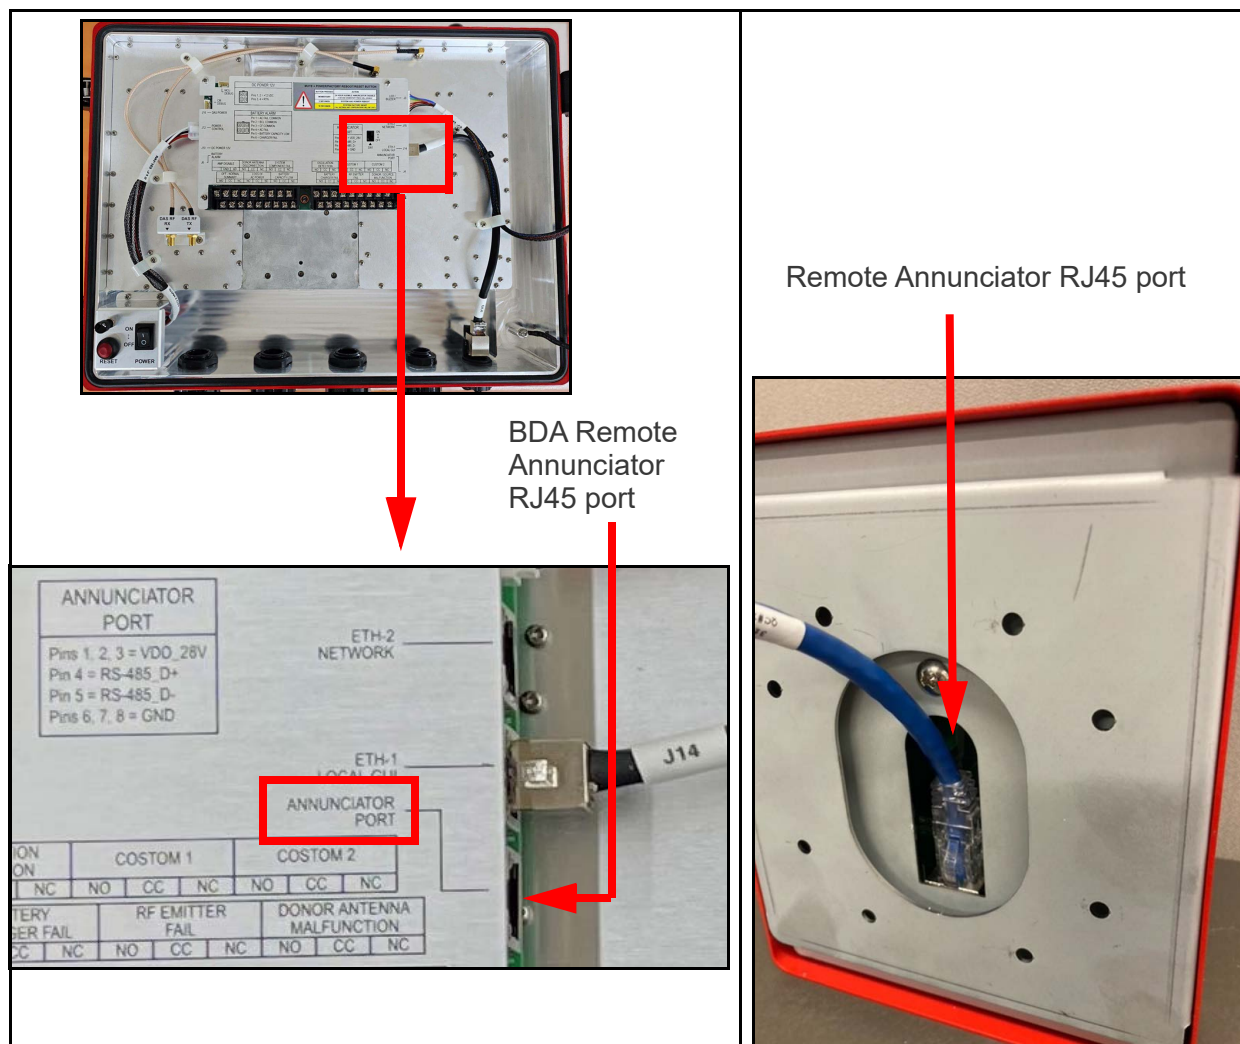

Figure 4-12 Connections to the Remote Annunciator
4. Install the Ethernet cable through the bottom conduit fitting labeled REMOTE ANNUNCIATOR to the ANNUNCIATOR PORT connector inside the BDA and the port on the back of the annunciator (see Figure 4-12). Remove factory installed plugs from these RJ45 ports as necessary.